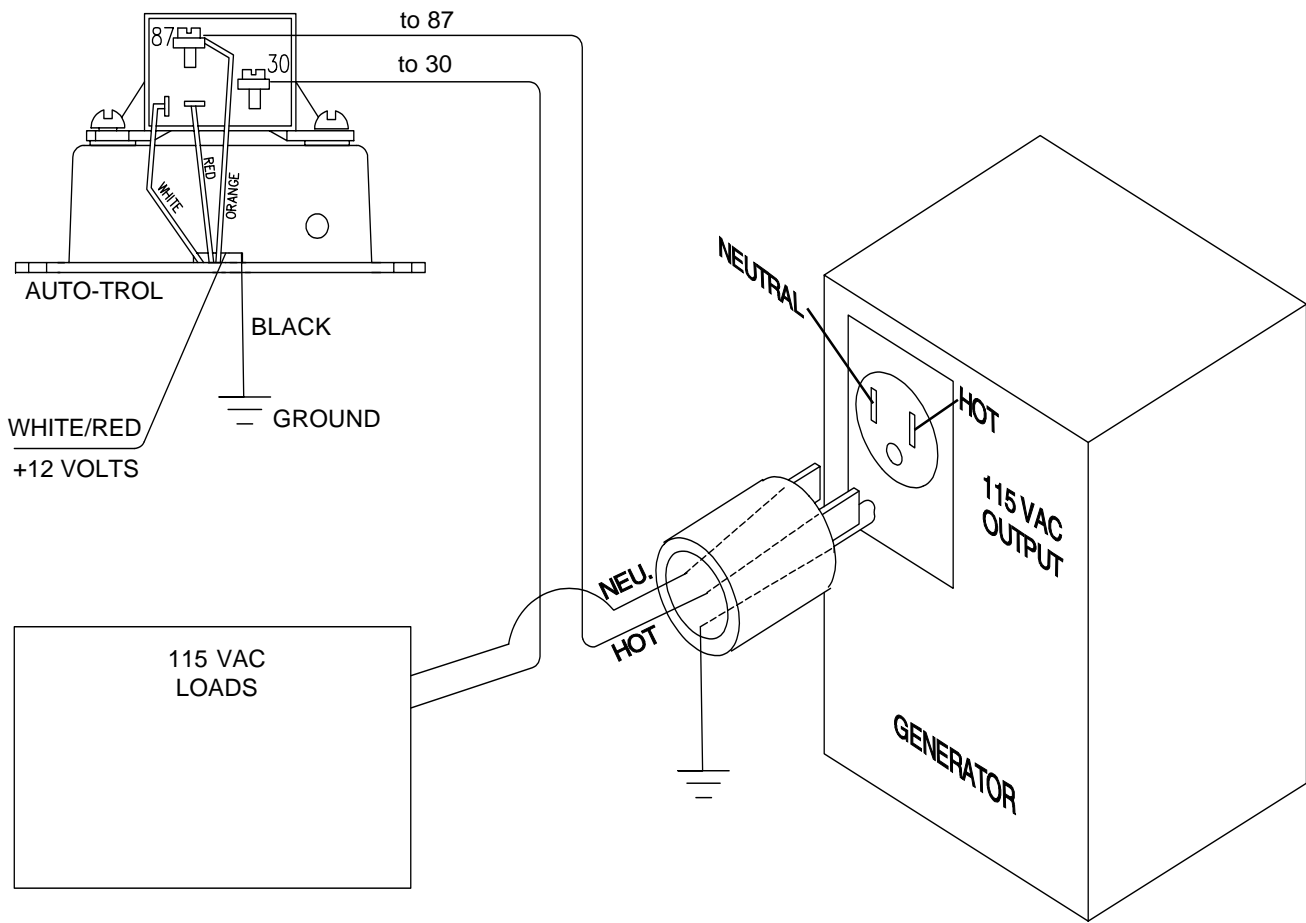

Figure 1 AUTO-TROL 091-36 WIRING
1.0 Mount the AUTO-TROL in a suitable location and wire as illustrated in figure 1.